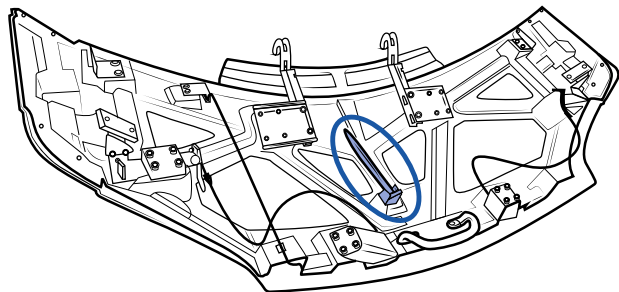

Figure 18 - Tubular lever under the hood
3. Lift the front hood (**See page 15**) and remove the tubular lever for the manual pump from under the hood (**Figure 18**).